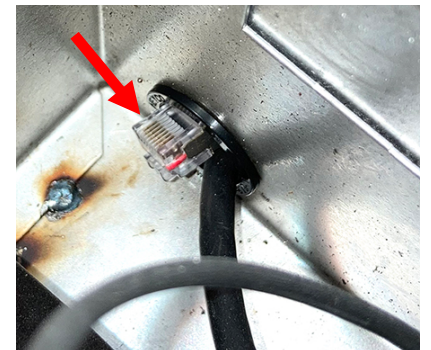

Figure 37
47. Route the harness in step 30, from the rear of the FIB box to the lower left corner of the control box. Insert the harness (RJ45) connector first through the bushing into the rear of the control box (see Figure 37).